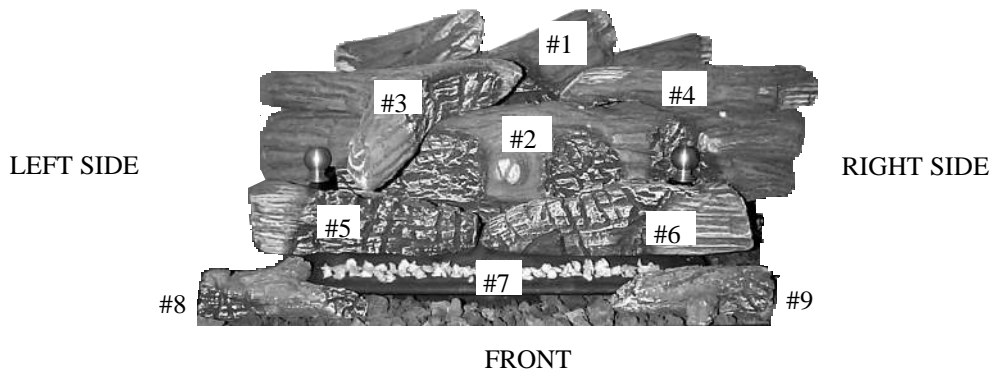

Figure 2.
**WARNING:** POSITIONING OF LOGS IS VERY CRITICAL (See Figure 2). Page 10.